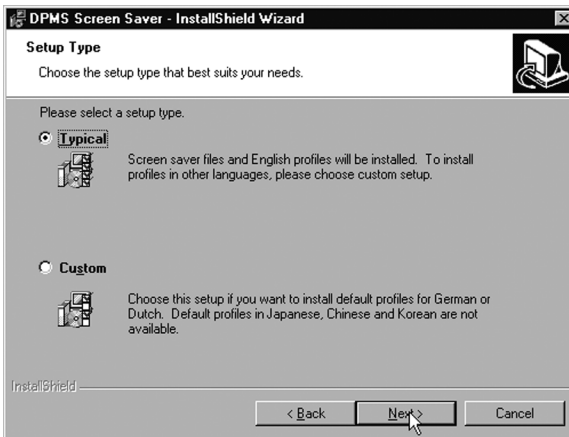

Figure 24
20. The “Setup Type” page will now appear (figure 24). Choose **“Typical”** to install the default schemes with English names. Choose **“Custom”** to install the default schemes with either Dutch or German names. Currently the default schemes are not supported in the Japanese, Korean and Chinese languages. We recommend that the users of these three languages install the English default schemes and then rename and save them into their language in the DPMS configuration screen. Click **“Next”** to continue.